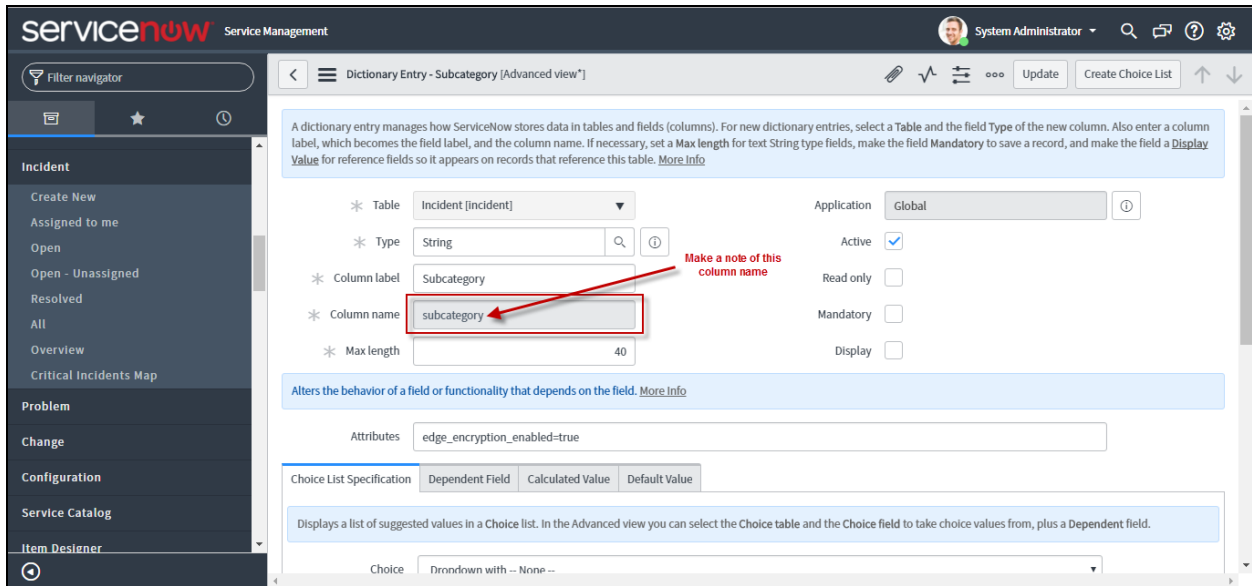

Figure 5.43: The column name of the 'Contact' field
- This will open Figure 5.43. The value of the **Column name** field will be displayed, as shown by Figure 5.43. As you can see, it is *subcategory*. This value should be used as the column name of the 'Subcategory' custom field in our example.